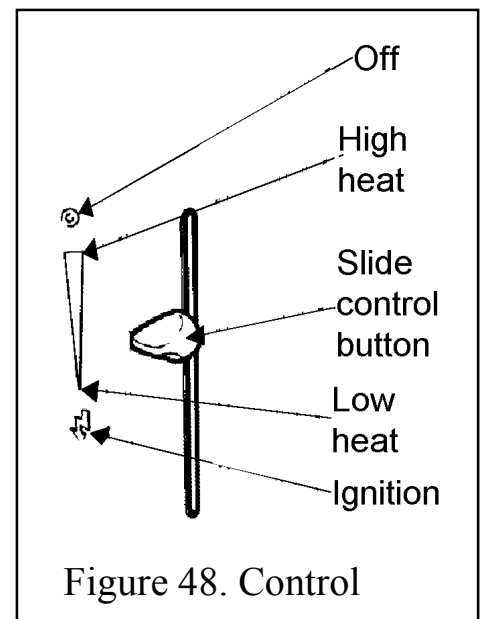

Figure 48. Control
The control position markings on the front surround are shown in figure 48.
5. Gradually slide the button up to increase the burner setting. The burner should be at its maximum setting at the high heat position shown in figure 48. You should feel a check to the button movement at this position.